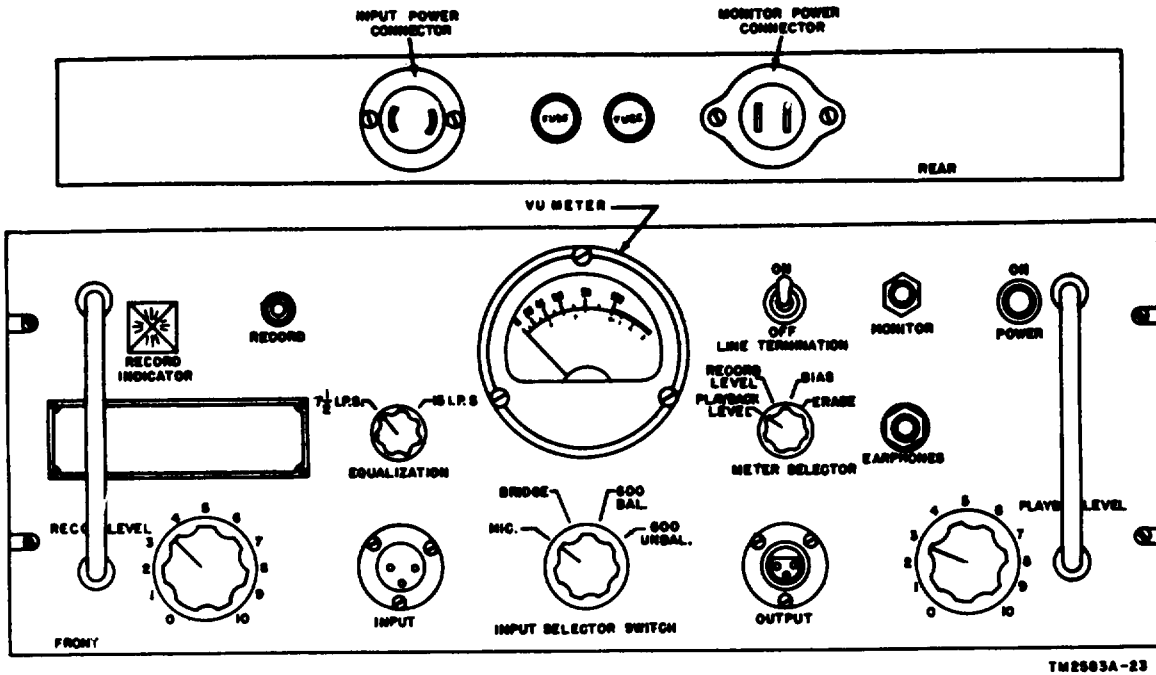
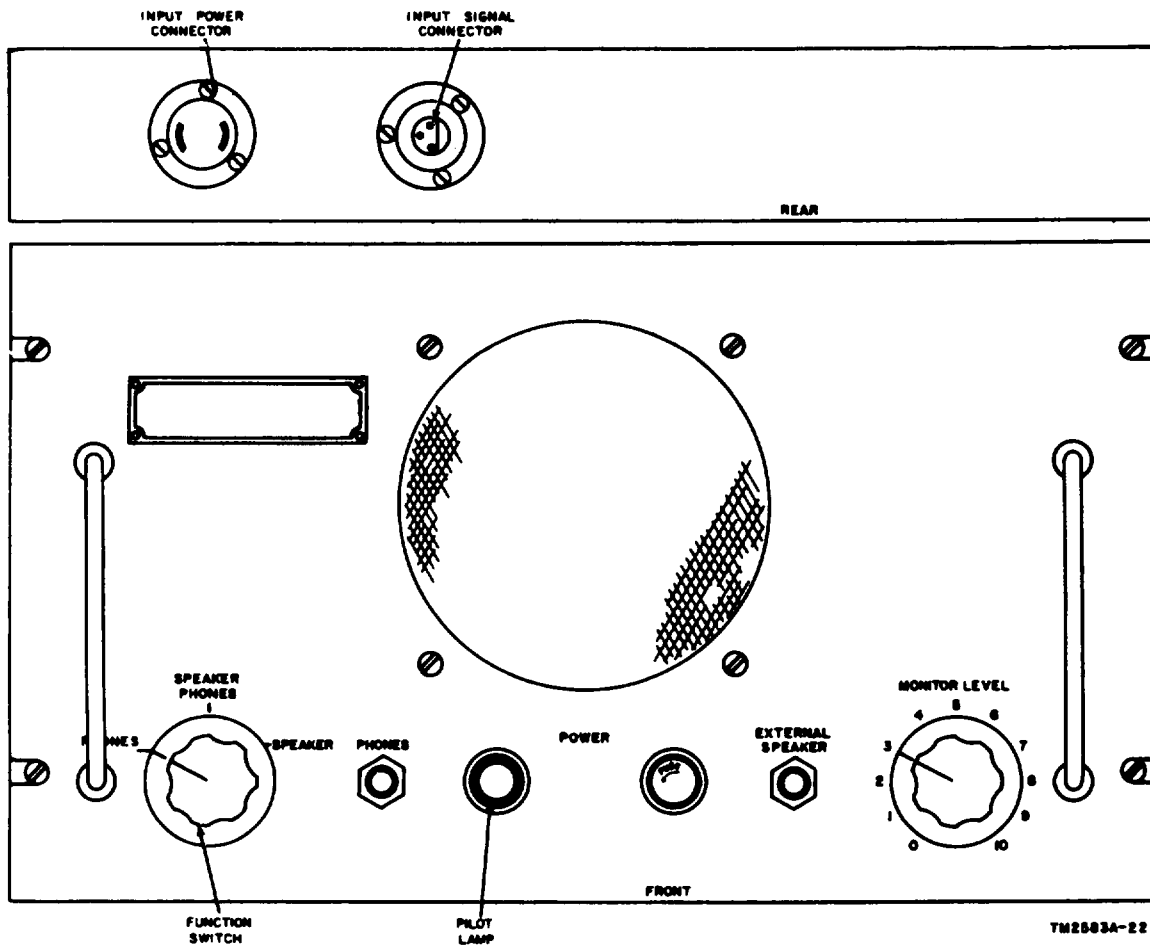

Figure 12. Amplifier, front and rear panels.
Figure 13. Audio amplifier, front and rear panels.
(a) Insert the headset plug in the EARPHONES jack on the amplifier panel (fig. 12).
- (b) Insert the headset plug in the PHONES jack on the audio amplifier panel (fig. 13).
- (1) Listen to the recording for quality. Turn the METER SELECTOR switch to the RECORD LEVEL position. If required, adjust the RECORD LEVEL control to keep the vu meter indicator from passing the 100 mark on the sound peaks.
- (2) Turn the METER SELECTOR switch to the BIAS position. The vu meter should indicate 100.
- (3) Turn the METER SELECTOR switch to the ERASE position. The vu meter should indicate 100.
- (4) Adjust the PLAYBACK LEVEL or MONITOR LEVEL control (fig. 12 and 13), depending upon which amplifier is being used, for comfortable sound volume in the headset. For control of loudspeaker volume, adjust the MONITOR LEVEL control only.
- (5) Return the METER SELECTOR switch to the RECORD LEVEL position and adjust the RECORD LEVEL control as required during the recording to keep the vu meter indicator from passing the 100 mark on sound peaks.
- b. Move the METER SELECTOR switch to the PLAYBACK LEVEL position (fig. 12).
- d. Connect a headset to the PHONES (fig. 13) or EARPHONES (fig. 12) jack. If the headset is connected to the PHONES jack on the audio amplifier, move the function switch to the PHONES position. If the information is to be played back for a small audience, move the function switch to the SPEAKER or the SPEAKER PHONES position.
*b.* Connect the microphone to the INPUT connector on the amplifier (fig. 12).
##### *a. Amplifier (fig. 12).*
- (1) DA Form 11-251 is a preventive maintenance check list to be used by a second echelon repairman as directed by his commander.
- (2) Items not applicable to the recorder-reproducer set are lined out on figure 13. References in the ITEM block in the figure are to paragraphs in this manual which contain additional maintenance information pertinent to the particular item.